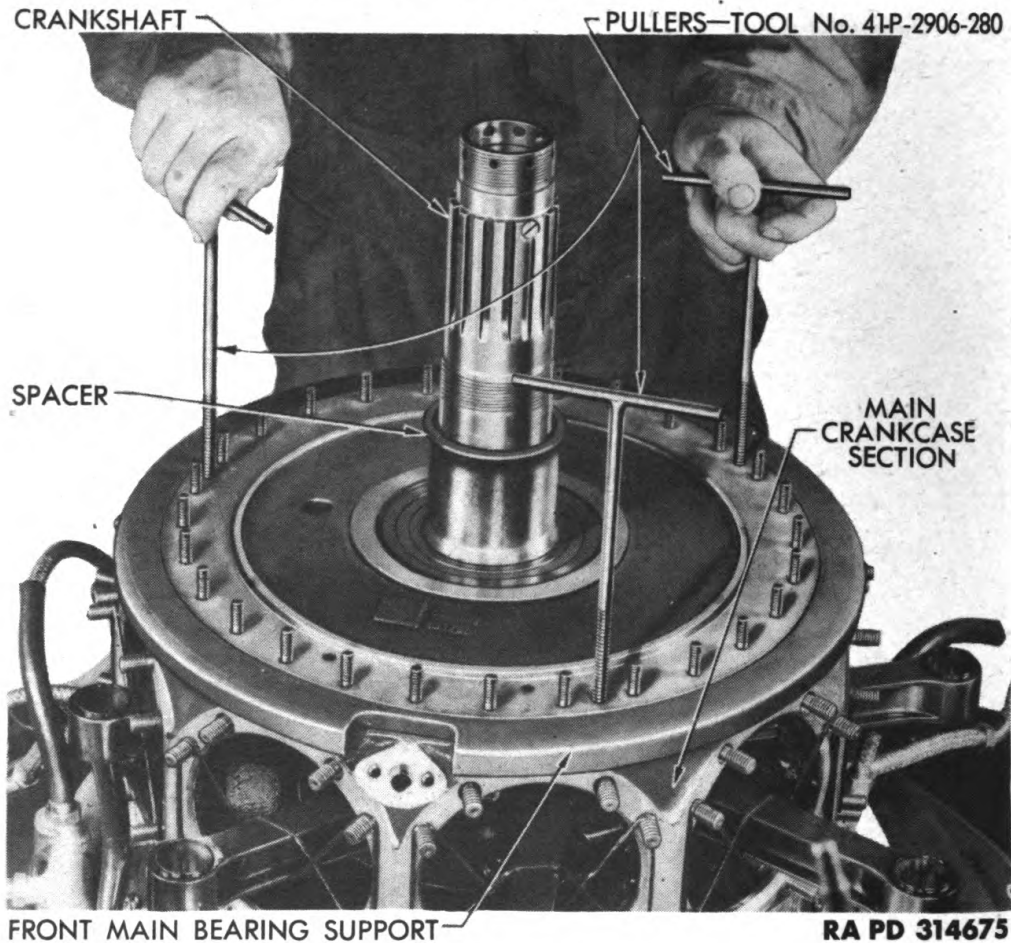
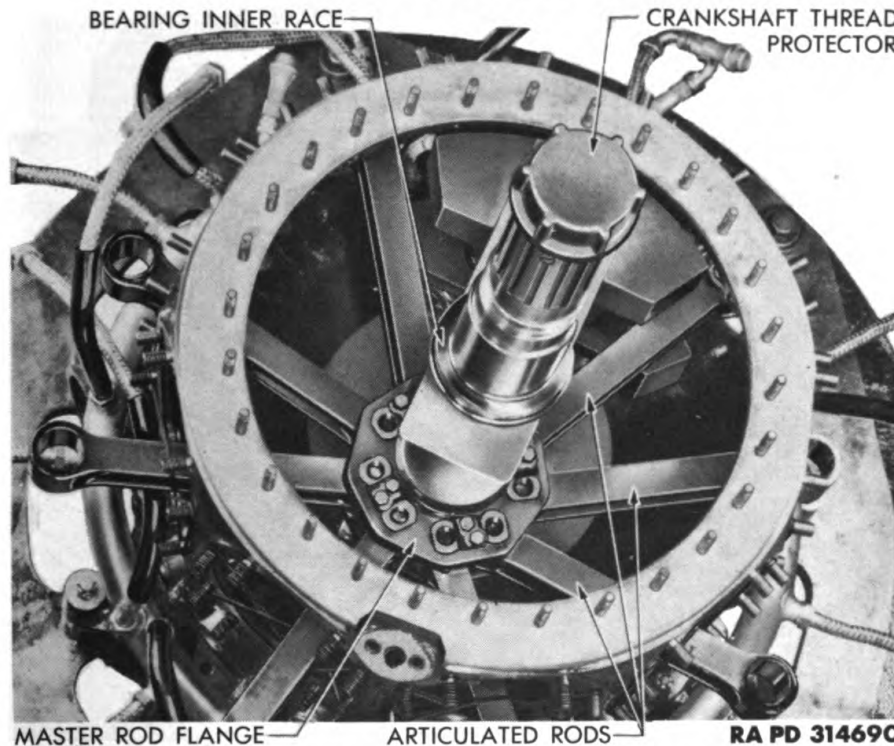

Figure 62 — Removing Front Main Bearing Support
Figure 63 – Interior of Main Crankcase Section Prior to Removal of Articulated Rods
s. Remove Front Main Bearing Support. Slide spool-like spacer from crankshaft (fig. 62). Pull front main bearing support from studs on main crankcase section (fig. 62), using three pullers (41-P-2906-280), and exerting equal pressure on each. Lift front main bearing outer race and roller assembly from inner race. Inner race remains on crankshaft (fig. 63). Handle bearing with care to avoid loss of rollers. Wrap bearing in oiled paper until ready to service or install. Reinstall thread protector on end of crankshaft (fig. 63).